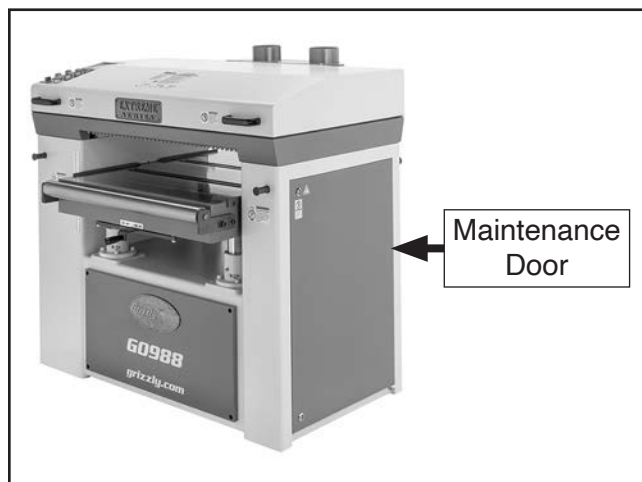

Figure 21. Location of maintenance door.
26. Open maintenance door (see **Figure 21**).